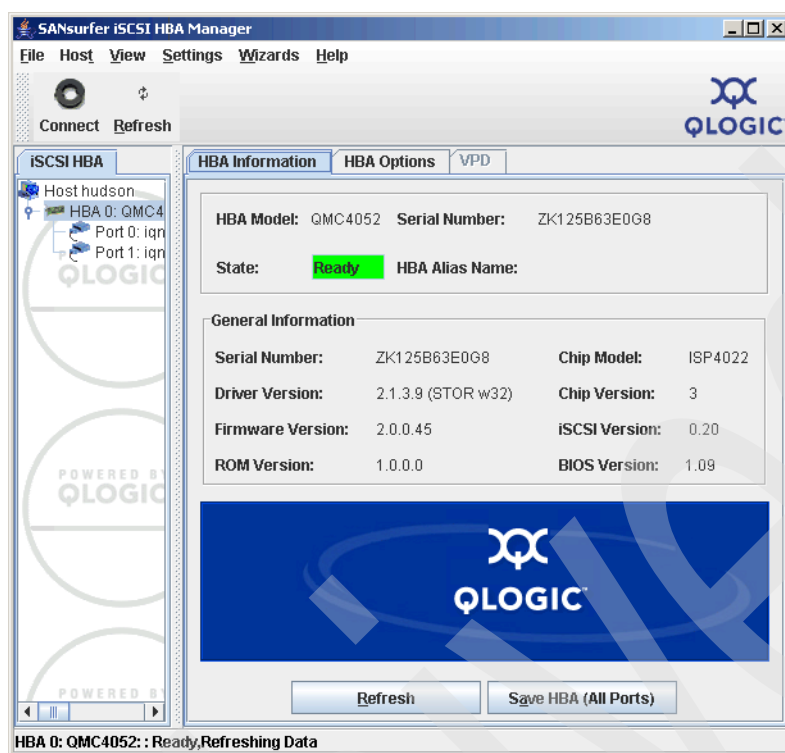

Figure 21-36 SANsurfer - HBA information with latest code level
14.The HBA information tab shows now the latest code level, as shown in Figure 21-36.